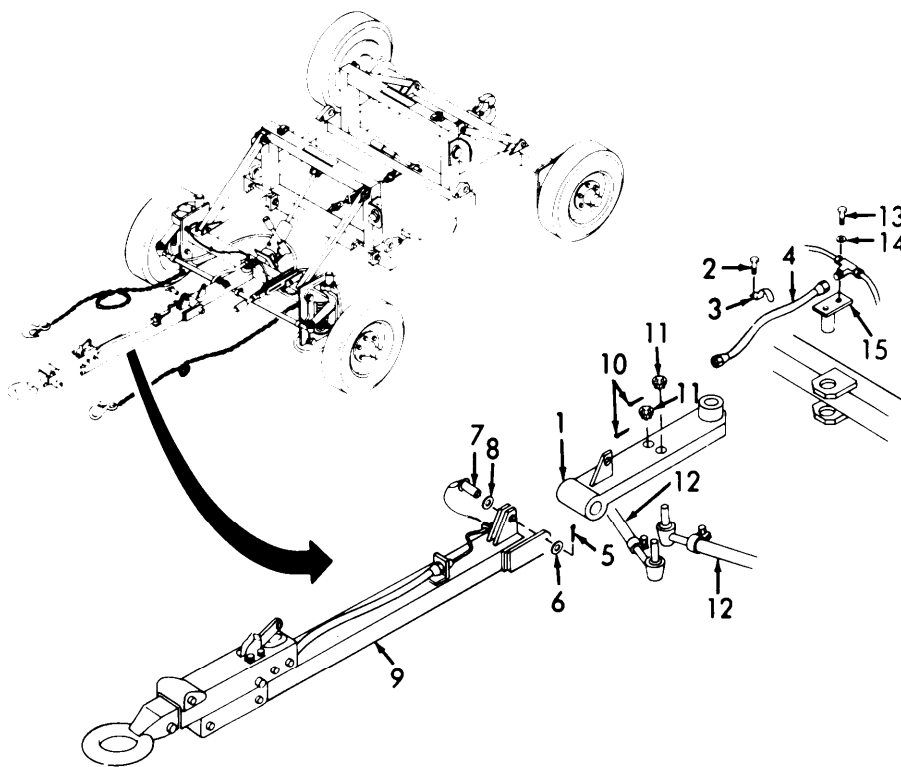

Figure 3-40. Steering Center Arm, Installation.
- (1) Install steering center arm (1, Figure 3-40).
- (2) Install pivot pin (15) with washer (14) and bolt (13).
- (3) Install tie rods (12) onto steering center arm (1).
- (4) Install two nuts (11) and two cotter pins (10).
- (5) Install towbar (9), and pin (7) with washer (8).
- (6) Install washer (6) and cotter pin (5).
- (7) Connect flex hose (4) to fitting on towbar (9).
- (8) Bleed brake system in accordance with paragraph 3-28f.